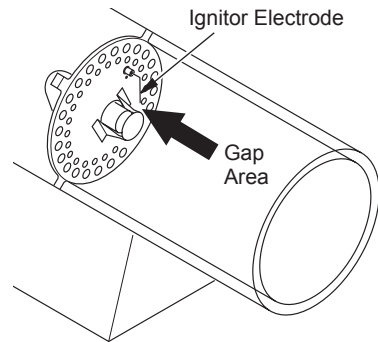

Figure 12 - Clearance Between Ignitor Electrode and Target Plate
7. Set gap between ignitor electrode and target plate to .17" (43.18 cm) (see Figure 12).